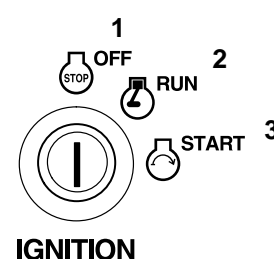

Figure 6
6. Turn ignition key to “START” to energize starter. When engine starts, release key (Fig. 6).
3. Turn the ignition key to “OFF” (Fig. 6).